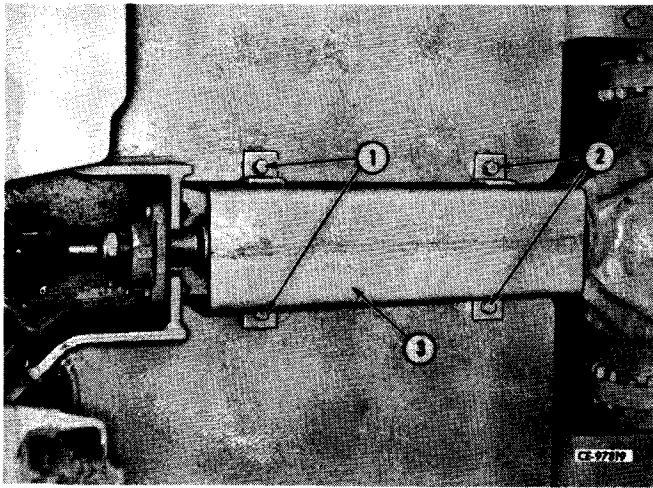

Figure 5-2
Remove cap screws and nuts (1, 2, Fig. 5-2) and shield (3) from tractor frame.